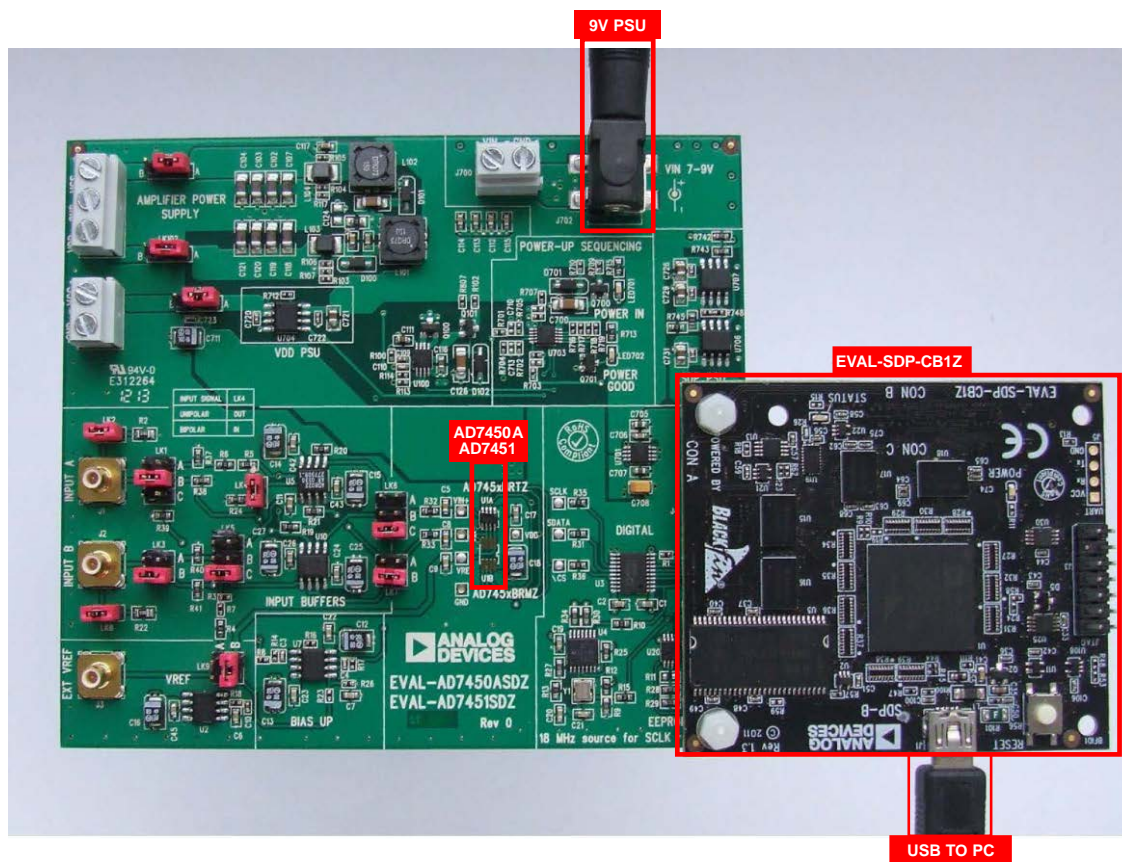

Figure 2. Hardware Configuration—Setting Up the EVAL-AD7450ASDZ/EVAL-AD7451SDZ
2. Connect the EVAL-SDP-CB1Z board to the EVAL-AD7450ASDZ/EVAL-AD7451SDZ board as shown in Figure 2. Screw the two boards together with the enclosed nylon screw-nut set to ensure the boards connect firmly together.
The AD7450A/AD7451 evaluation board connects to the (EVAL-SDP-CB1Z) system demonstration board. The EVAL-SDP-CB1Z board is the controller board, which is the communication link between the PC and the main evaluation board. Figure 2 shows a photograph of the connections made between the AD7450A/AD7451 daughter board and the EVAL-SDP-CB1Z board.